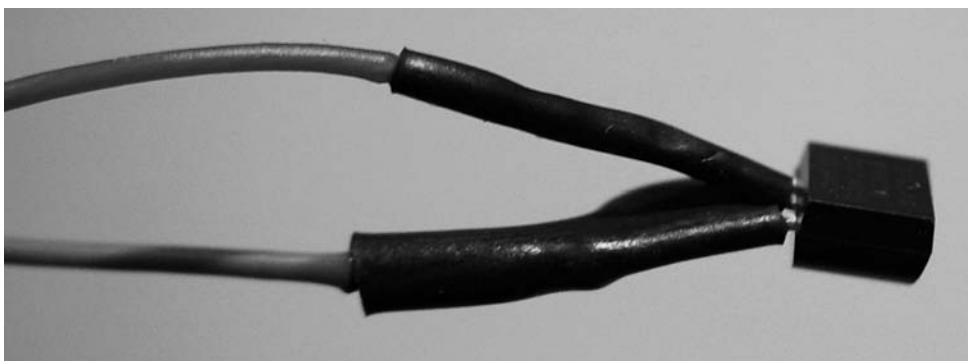

FIGURE 5-11: Attach leads.
2. Solder a short length (about 3") of wire to pin 2, the Data pin. To keep from getting mixed up later, I used a red wire cut from a length of CAT3 cable. Next, solder a short length of wire to the twisted pins 1 and 3 (Return). This time I used a green wire. Sleeve the leads with insulated sleeving or heat-shrink tubing. Yours should look similar to Figure 5-11.